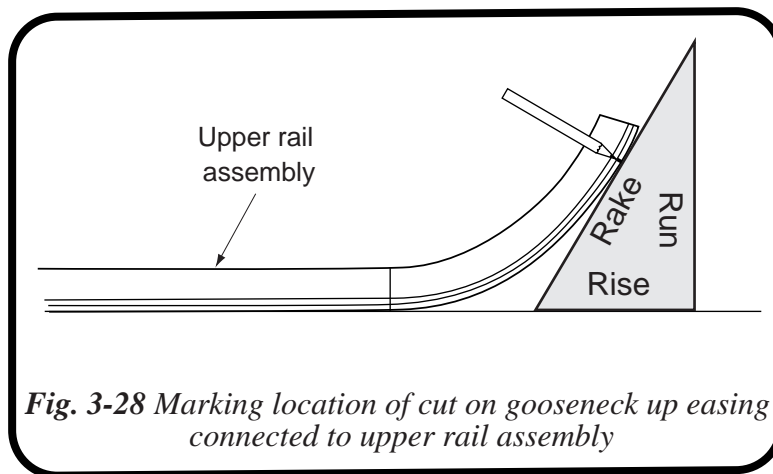

Fig. 3-28 Marking location of cut on gooseneck up easing connected to upper rail assembly
10. Slide the pitch block against the up easing with the “rise” side down and place a mark where the block touches the fitting. Please note Fig. 3-28 here.